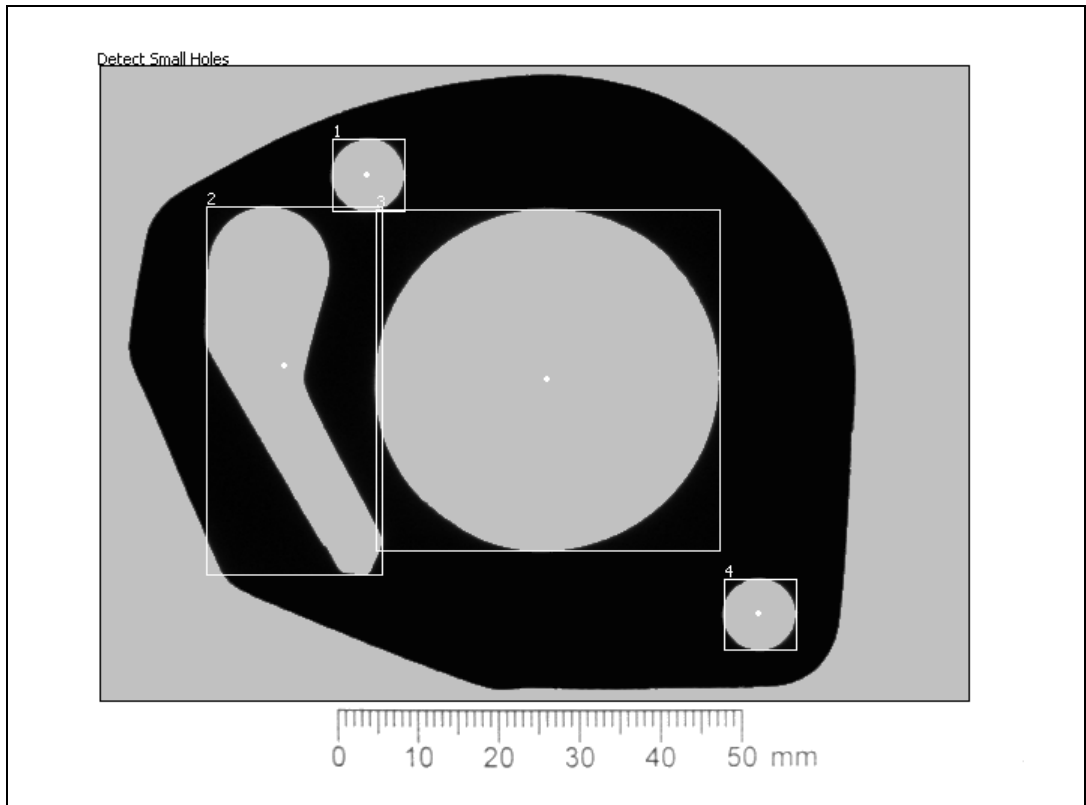

Figure 3-2. Defining the ROI
4. Using the default **Rectangle Tool**, draw a region of interest (ROI) around the entire gasket, as shown in Figure 3-2.